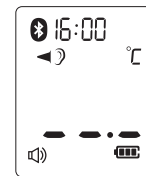

Figure 2
2. Press the **⏻ Button**, The display is activated to show all segments. After self-checking Figure 2 appears on the display screen with beeps, so you can start a new measurement. If error messages appears, it means the thermometer is not ready for measurement.
When the thermometer has been turned on and followed by Figure 2/4 or finished testing, press and hold the **Button** for three seconds. The letter MEM will appear at the bottom of the display. (See Figure 7)